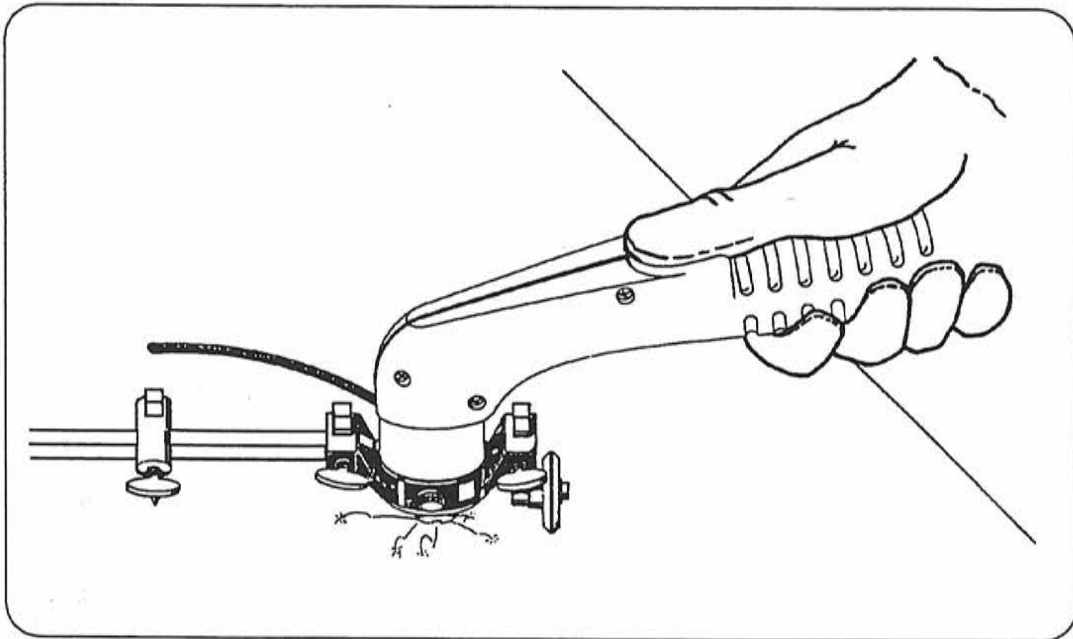

Figure 4-6 Cutting a Circle
- To cut perfect circles for spin fittings, use a template or a radius cutter attachment (Fig. 4-6).